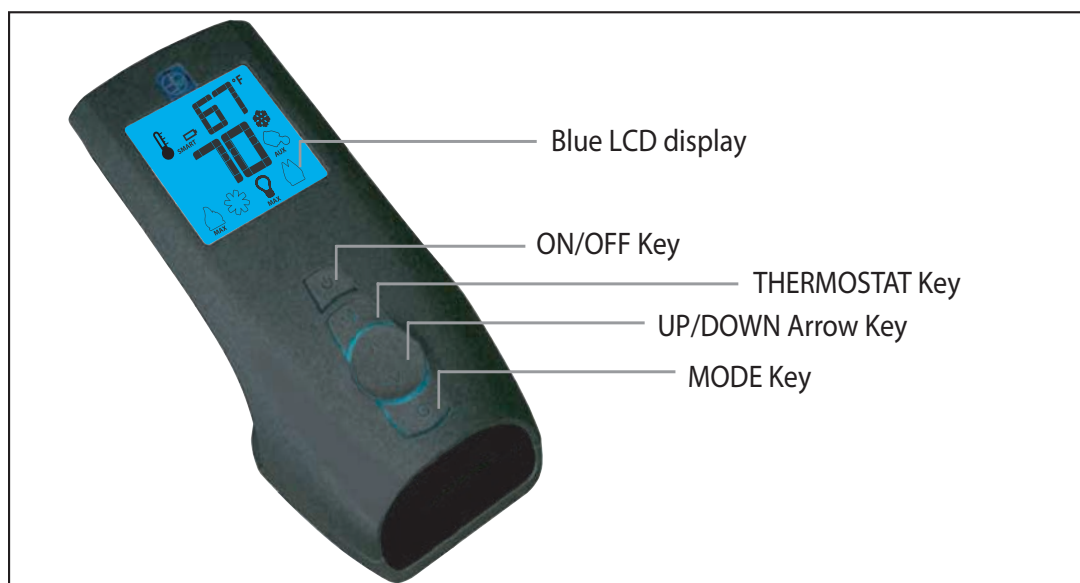
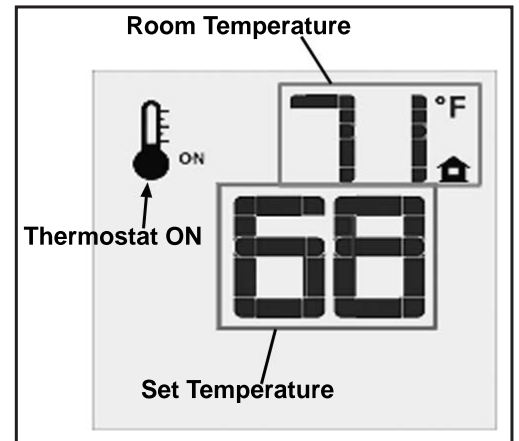
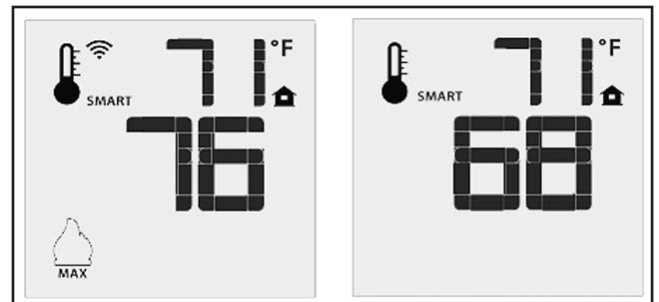
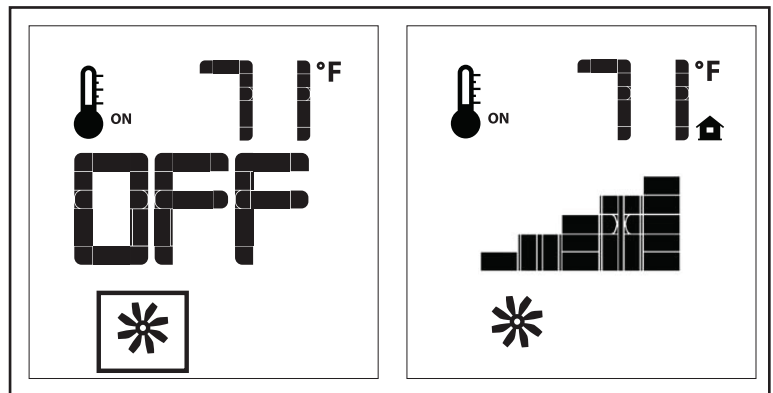

Figure 5: Proflame 2 Transmitter.
Figure 9: Remote Control Displays Set Temperature.
Figure 10: Remote Control's Smart Flame Function.
Figure 12: Fan Control
The Proflame 2 Transmitter is a remote control with a blue backlit lcd display. It uses a streamline design with a simple button layout and informative lcd readout (Figure 5). The Transmitter is powered by three (3) AAA type batteries. A Mode Key is provided to Index between the features and a Thermostat Key is used to turn on/off or index through Thermostat functions (Figure 5 & 6).
Press the ON/OFF Key on the Transmitter. The Transmitter LCD display will only show the room temperature and Icon (see Figure 9). A single “beep” from the IFC confirms reception of the command and both the pilot light (if the unit is not set to continuous pilot) and main burner will turn off.
The Remote Control can operate as a room thermostat. The thermostat can be set to a desired temperature to control the comfort level in a room. To activate this function, press the Thermostat Key (see Figure 5). The LCD display on the Transmitter will change to show that the room thermostat is “ON” and the set temperature is now displayed (see Figure 9). To adjust the set temperature, press the Up or Down Arrow Keys until the desired set temperature is displayed on the LCD screen of the Transmitter.
The Smart Thermostat function adjusts the flame height in accordance to the difference between the set point temperature and the actual room temperatures. As the room temperature gets closer to the set point the Smart Function will modulate the flame down. To activate this function, press the Thermostat Key (Figure 5) until the word “SMART” appears to the right of the temperature bulb graphic (Figure 10). To adjust the set temperature, press the Up or Down Arrow Keys until the desired set temperature is displayed on the LCD screen of the Transmitter.
The E33 comes with a convection fan that can be controlled with the Transmitter. The fan speed can be adjusted through six (6) speeds. To control the fan press the MODE key (Figure 5) to index to the fan control icon (Figure 12). Use the UP/DOWN arrow keys to turn on, off, or adjust the fan speed (Figure 12). A single beep from the IFC will confirm the command has been received.